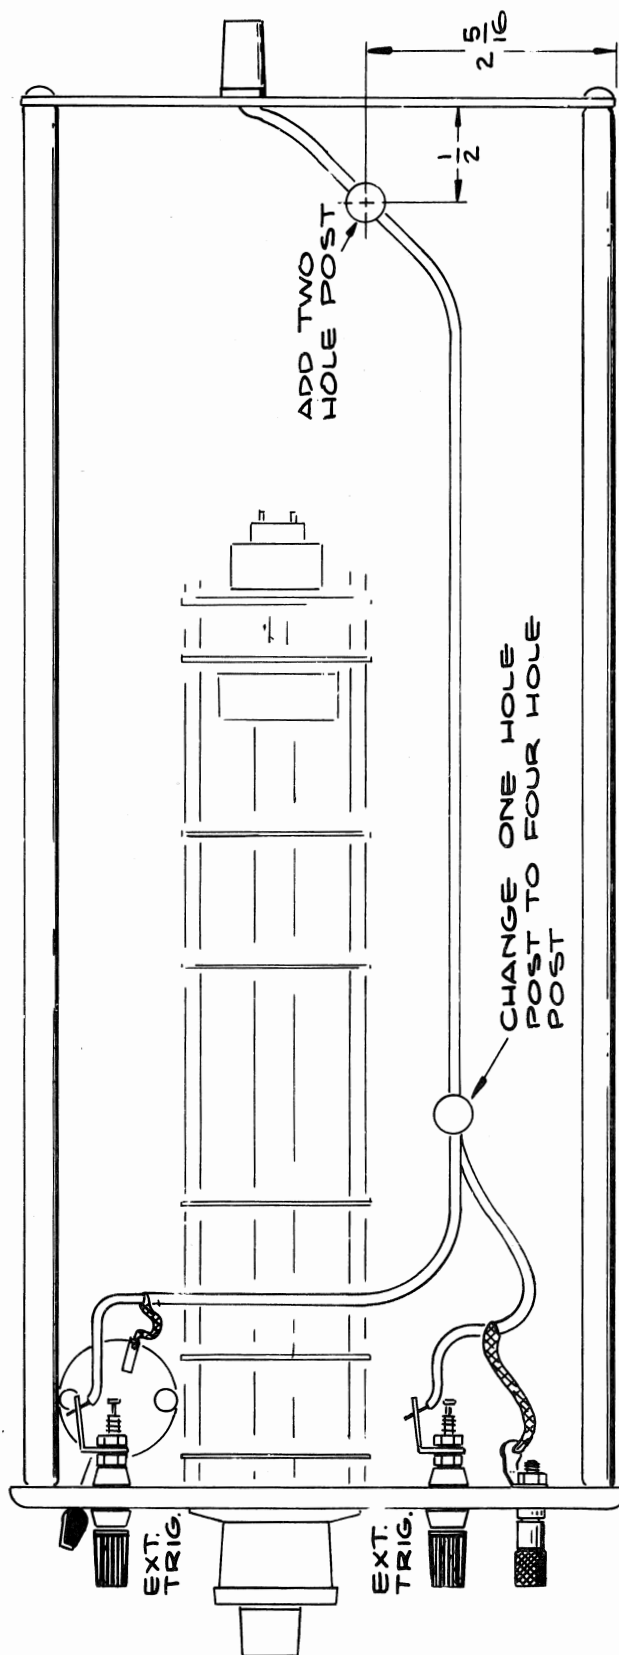

Fig. 8, 3B3
**IMPORTANT:** Select the proper steps below, plus the portion of Fig. 8 which applies, to connect either the Delayed EXT TRIG or the Normal EXT TRIG binding post to the rear panel.
- ( ) d) Drill a 5-32 in. hole at the rear of the chassis, as shown in Fig. 8.